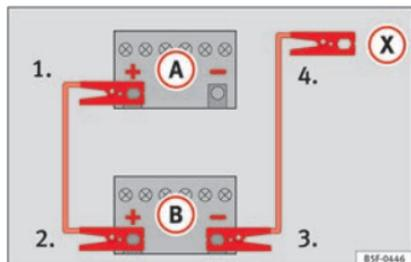

Fig. 76 Diagram of connections for vehicles without Start-Stop system.
2. Connect one end of the *red* jump lead to the positive (+) terminal of the vehicle with the flat battery (A) » » Fig. 76.
3. Connect the other end of the *red* jump lead to the positive terminal (+) in the vehicle providing assistance (B).
4. *For vehicles without Start-Stop system:* connect one end of the *black* jump lead to the negative terminal (-) of the vehicle providing the current (B) » » Fig. 76.